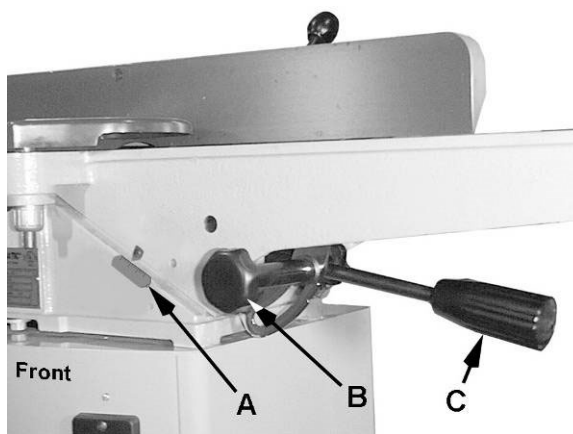
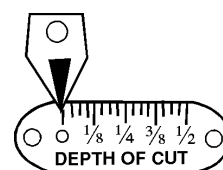

Figure 16
Figure 17
Refer to Figures 16 – 18.
1. Loosen the rear *thumb screw* (D) and the *lock knob* (B).
2. **Raise or lower** the *height adjustment handle* (C) until the *scale* (A, Fig. 16 and Figure 17) reads approximately the desired depth of cut.
Helpful Hint: Occasionally you will find that you cannot set the coarse adjustment all the way up to zero or all the way down to 1/2" on the *Depth of Cut* scale (Figure 17) when raising or lowering the handle (C, Fig. 16). When this happens:
With the *lock knob* (B, Fig. 16) unlocked, *rotate* the *height adjustment handle* (C, Fig. 16) a few times, then raise or lower it. Once you are able to reach the zero or 1/2" setting (Figure 17), you will again be able to swing the handle (C) through the full range.